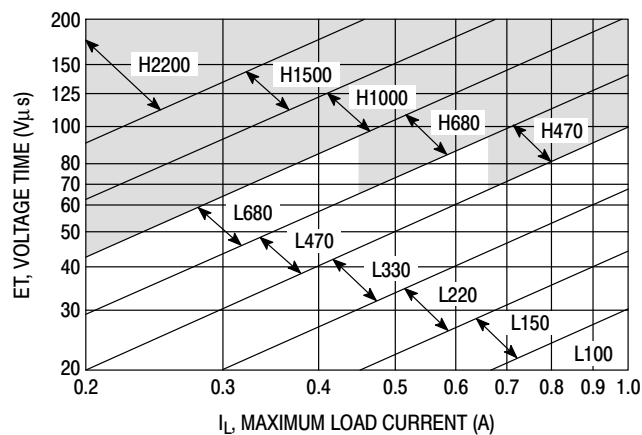

Figure 21. LM2575-Adj
4. Inductor Selection (L1) A. Use the following formula to calculate the inductor Volt x microsecond [V x μs] constant: $E \times T = (V_{in} - V_{out}) \times \frac{V_{out}}{V_{on}} \times \frac{10^6}{F[\text{Hz}]} [V \times \mu\text{s}]$ B. Match the calculated E x T value with the corresponding number on the vertical axis of the Inductor Value Selection Guide shown in Figure 21. This E x T constant is a measure of the energy handling capability of an inductor and is dependent upon the type of core, the core area, the number of turns, and the duty cycle. C. Next step is to identify the inductance region intersected by the E x T value and the maximum load current value on the horizontal axis shown in Figure 21. D. From the inductor code, identify the inductor value. Then select an appropriate inductor from the Table 1 or Table 2. The inductor chosen must be rated for a switching frequency of 52 kHz and for a current rating of $1.15 \times I_{load}$. The inductor current rating can also be determined by calculating the inductor peak current: $I_{p(\text{max})} = I_{\text{Load}(\text{max})} + \frac{(V_{in} - V_{out})t_{on}}{2L}$ where t_{on} is the "on" time of the power switch and $t_{on} = \frac{V_{out}}{V_{in}} \times \frac{1}{f_{osc}}$ For additional information about the inductor, see the inductor section in the "External Components" section of this data sheet.	4. Inductor Selection (L1) A. Calculate E x T [V x μs] constant: $E \times T = (12 - 8.0) \times \frac{8.0}{12} \times \frac{1000}{52} = 51 [V \times \mu\text{s}]$ B. E x T = 51 [V x μs] C. $I_{\text{Load}(\text{max})} = 1.0 \text{ A}$ Inductance Region = L220 D. Proper inductor value = 220 μH Choose the inductor from the Table 1 or Table 2.